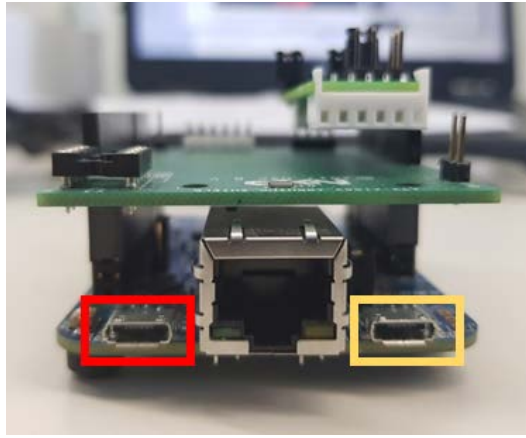

Fig 10. Red USB indicates OpenSDA debug port. Yellow USB indicates K64F port (FRDM-K64F)
As can be observed, there are two USB connectors in the Kinetis boards FRDM-K64F. See Fig 10. The USB connector highlighted in red corresponds to OpenSDA debug port. This port will be used by the development PC to flash and debug the A71 examples over an on-board debugger into the Kinetis MCU as well as to have a serial console. The USB
3. Select J-Link OpenSDA probe and click on 'OK'. Make sure the OpenSDA serial port is connected to the Windows platform (Fig 10, highlighted in red)